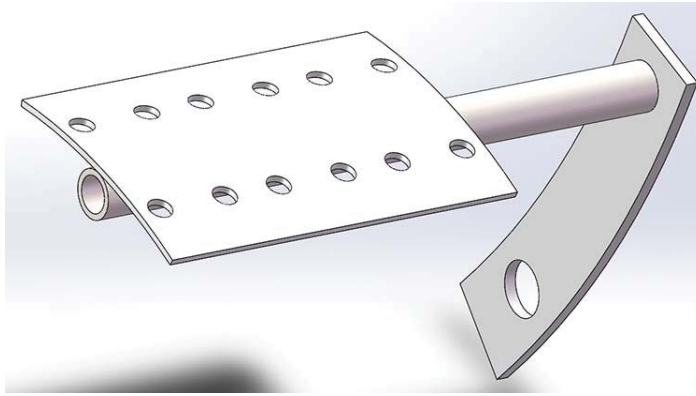

Figure 1: Remove existing encoder cable support bracket (DT21050)
2. Remove existing encoder cable support bracket (DT21050). Retrofit guard design has this bracket integrated. See Figure 1 on page 2.